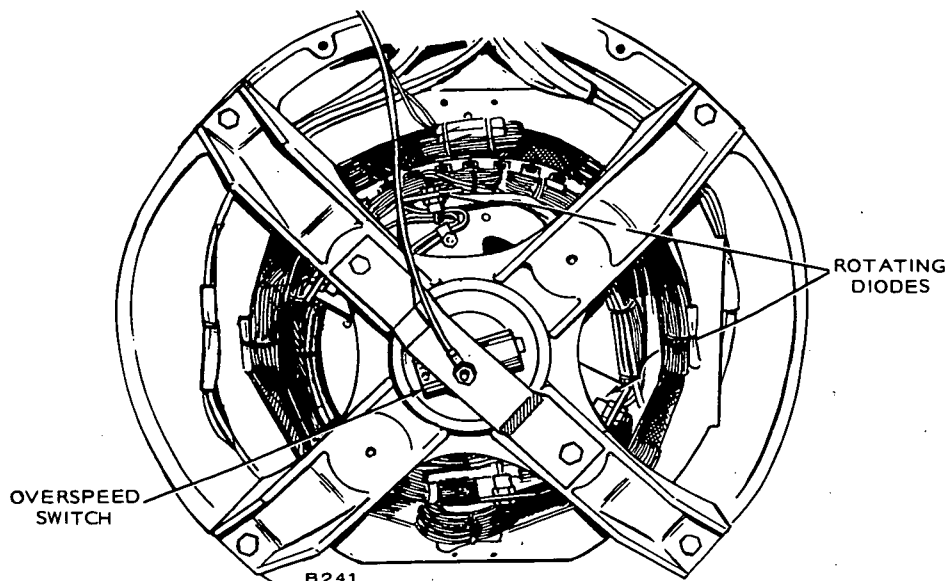

FIGURE 3. OVERSPEED SWITCH
Terminal Board (TB) 21: Connection of wire W12 to terminals H3, H4, H5, and H6 is made at this point, to change reference voltage when reconnecting generator for different voltages. Refer to Figure 3.